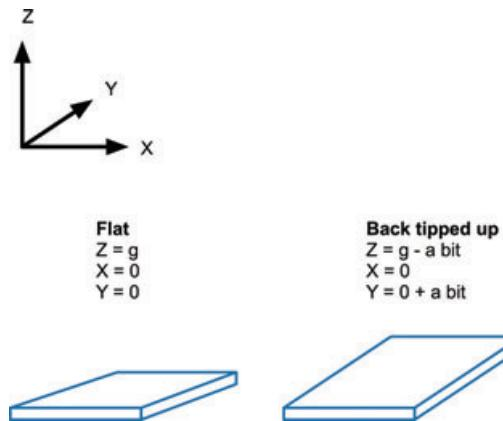

FIGURE 8-15 The effect of gravity on the accelerometer
These modules are three axis accelerometers that measure the force applied to a tiny weight inside the chip. Two of the dimensions, X and Y are parallel to the module's PCB. The third dimension (Z) is at 90 degrees to the module's surface. There will normally be a constant force acting on this dimension due to gravity. So if you tip the module, the effect of gravity starts to increase on the dimension in which you tip it (see Figure 8-15).